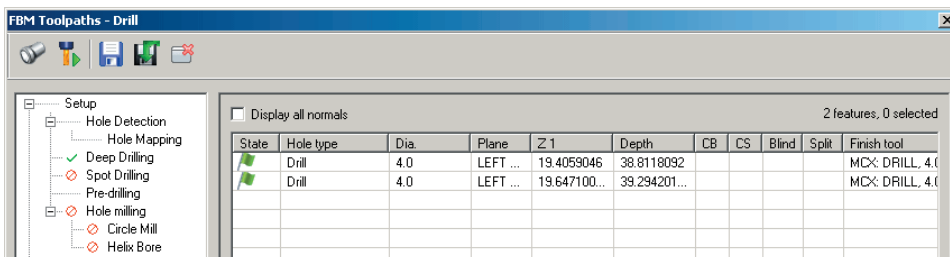

Fig. 9
Step 7. Review the holes listed, Fig. 9 and click OK .